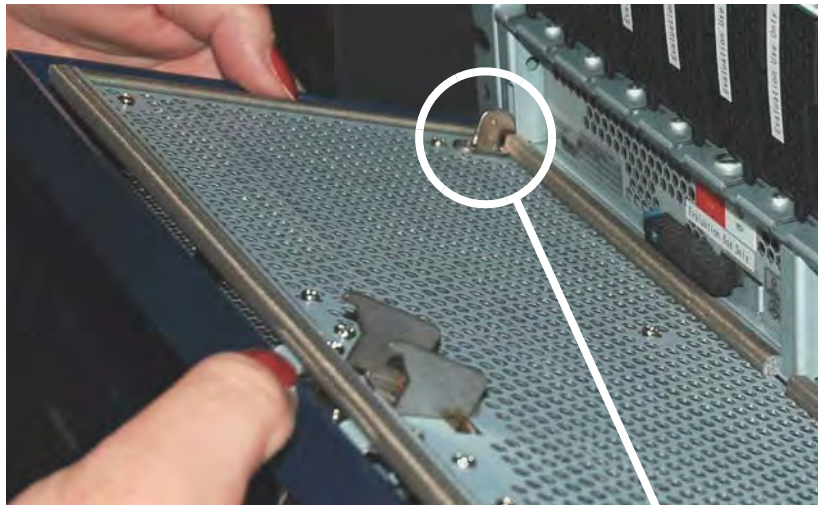

Figure 5-49: Installing a Front Bezel
3. Engage the two hooks of the bottom of the front bezel into the slots on the array chassis. See Figure 5-49.